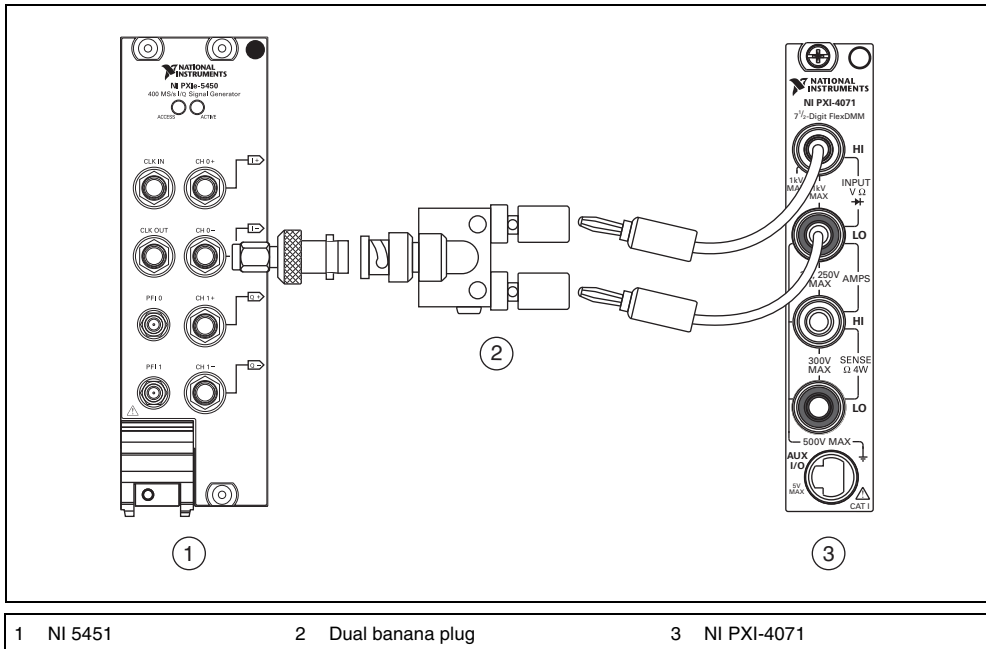

Figure 5. DC Voltage Common Mode Offset Accuracy Verification Connection (CH 0)
6. Connect the NI 5451 CH 0– output to the positive input of the DMM and the cable shield ground of the NI 5451 CH 0– output to the negative input of the DMM, as shown in Figure 5.